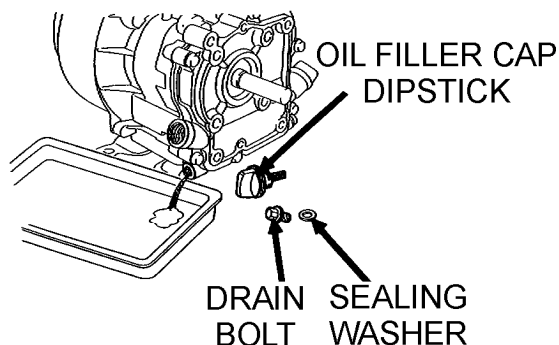

Figure 33. Draining Engine Oil
2. Drain the engine oil when the oil is warm as shown in Figure 33.